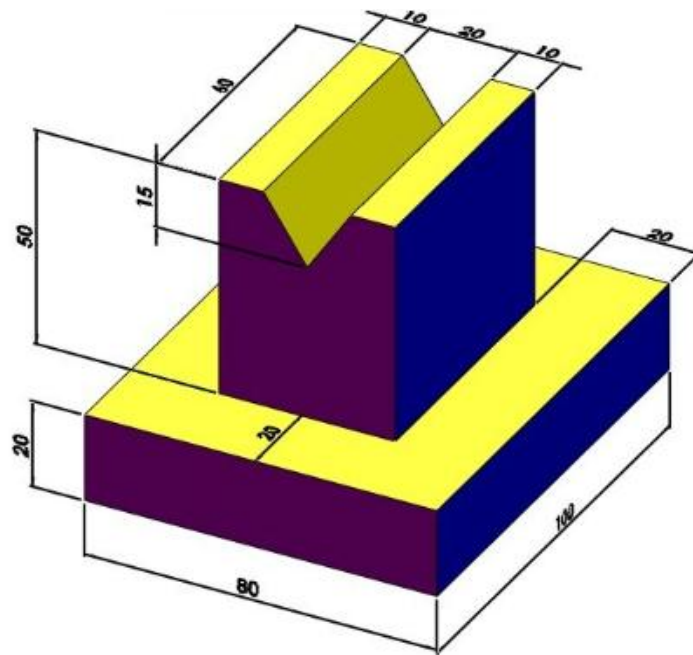

Fig.10.2
2. Draw the front view, side view and top view for the below Fig.10.2.